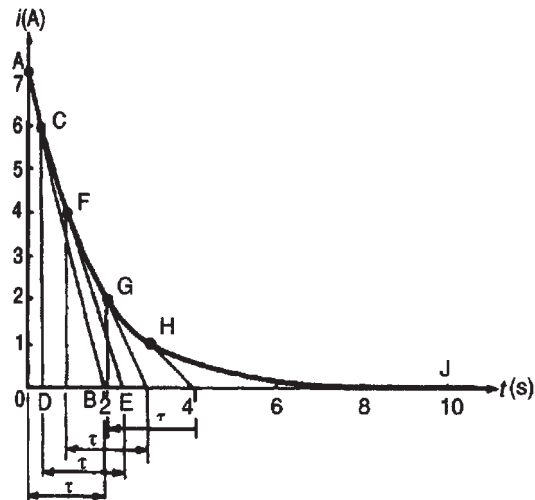

Figure 20.14
- (ii) With reference to Fig. 20.14, the initial slope is obtained by making OB equal to 1 time constant, (i.e. 2 s), and joining AB .